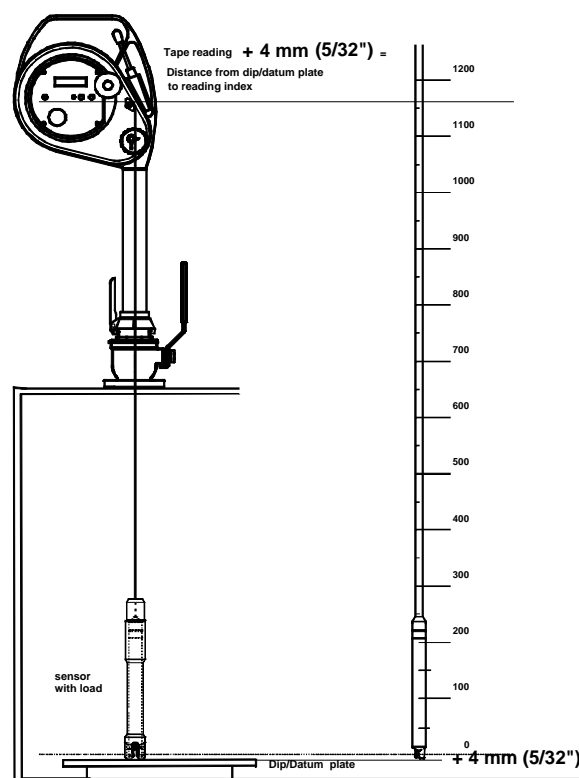

Figure 9-9
- When the sensing probe comes in contact with the dip/datum plate record the distance shown on the reading index. See Figure 9-9. The exact distance from the plate to the reading index is (reading + 4 mm) or (reading + 1/6") which is the reference height providing the reading index level has been adjusted to the zero ullage level of the tank. If the tank zero ullage is levelled above or below the reading index, an additional correction shall apply. For more details refer to section "Installation of the gauging system".